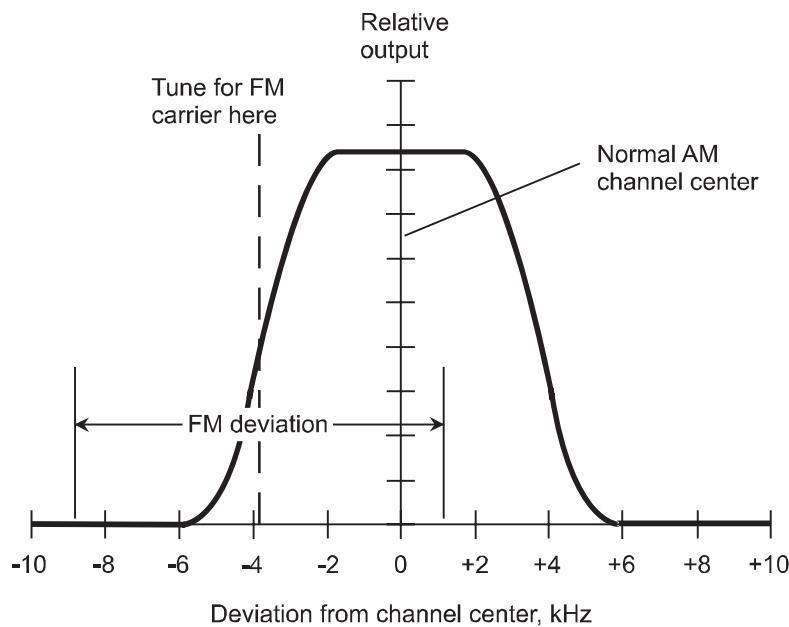

Fig. 10-5B. Slope detection of an FM signal.
- *Slope detection*: An AM receiver can be used to detect FM by setting the receiver frequency near, but not on, the FM unmodulated-carrier frequency. An AM receiver has a narrowband filter with a passband of a few kilohertz. This gives a selectivity curve such as that shown in Fig. 10-5B. If the FM unmodulated-carrier frequency is near the *skirt* (sloping part) of the filter response, frequency modulation makes the signal move in and out of the passband. This causes the receiver output amplitude to vary, producing a fair reproduction of the original modulating waveform.